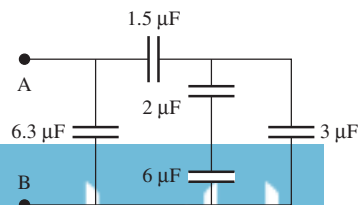

FIGURE P4.29 Capacitor network.
4.29 (A) Find the equivalent capacitance between points A and B in Figure P4.29.